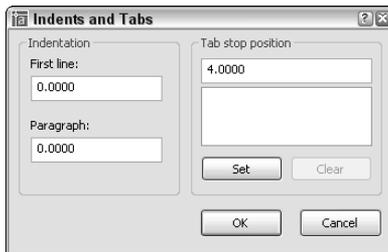

Figure 13-18: Use the Indents and Tabs dialog box to set indents and tabs for your text.
- ♦ **Indents and Tabs:** Opens the Indents and Tabs dialog box, as shown in Figure 13-18. You can set the following: